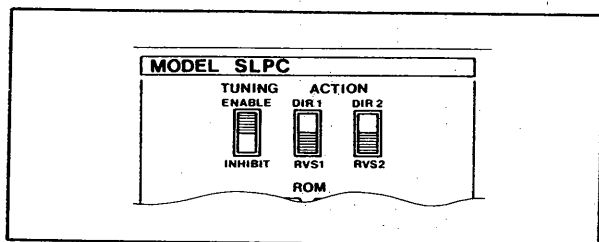

Figure 5-2-5. Setting Select Switches.
## (2) Setting the tuning board (See Figure 5-2-5.)